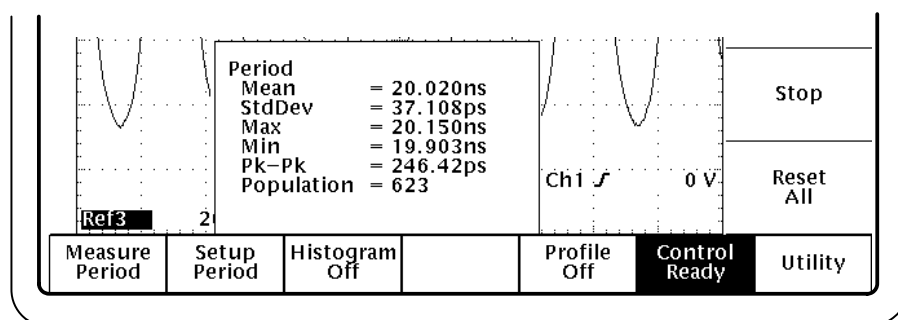

Figure 7: Period lesson: Statistics readout
3. Wait for the calculations to complete. Figure 7 shows the Statistics readout.